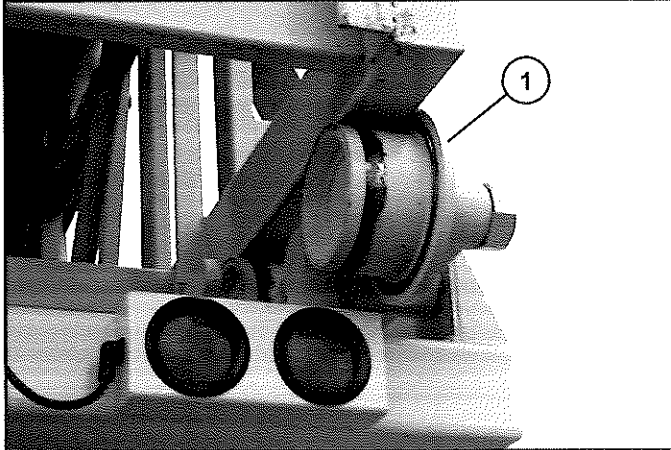
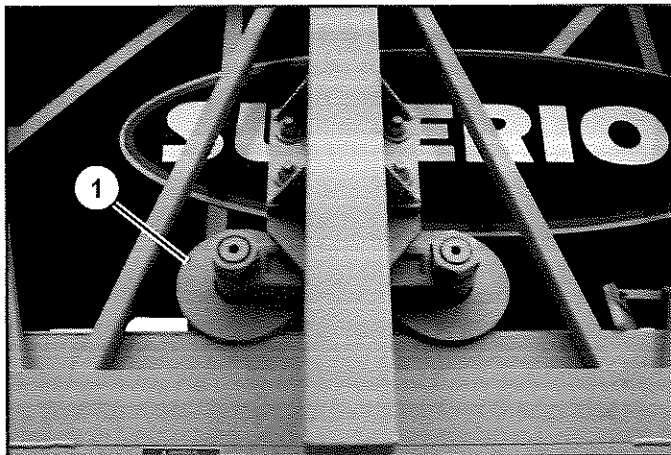
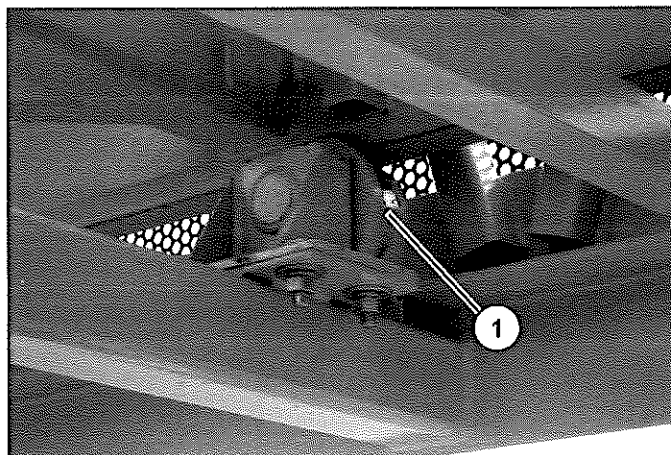

Figure 126
Figure 127
Figure 128
1. Make certain all primary (Item 1) (Figure 126), secondary (Item 1) (Figure 127), and support rollers (Item 1) (Figure 128) are in good mechanical shape. The primary load rollers are located closest to the head end of the conveyor.
2. Retract stinger conveyor so it is resting on all four support rollers (Item 1) (Figure 128).